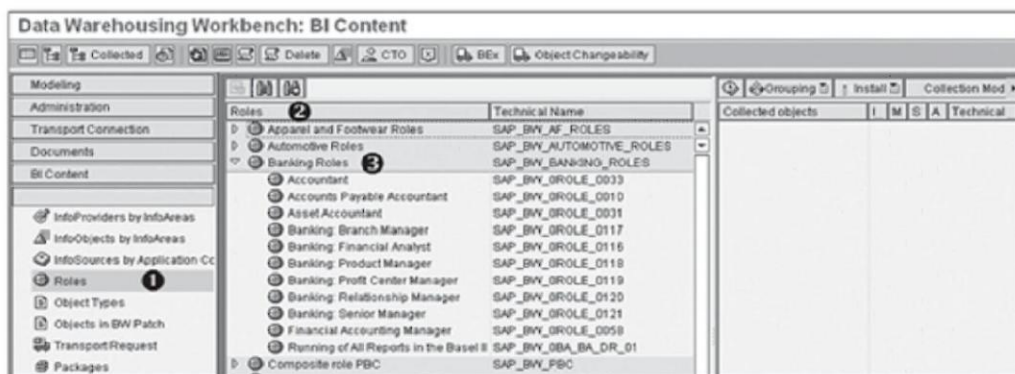

Figure 2.25 Business Content: Roles
Now click on Roles, as shown in ❶ of Figure 2.25. The right panel shows a list of roles offered by SAP Business Content (❷).